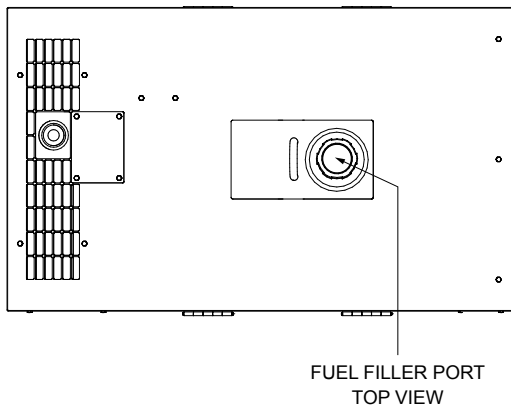

Figure 18. Adding Fuel
2. If fuel is low, remove the fuel cap (Figure 18) located on top of the generator and replenish with clean #2 diesel fuel.